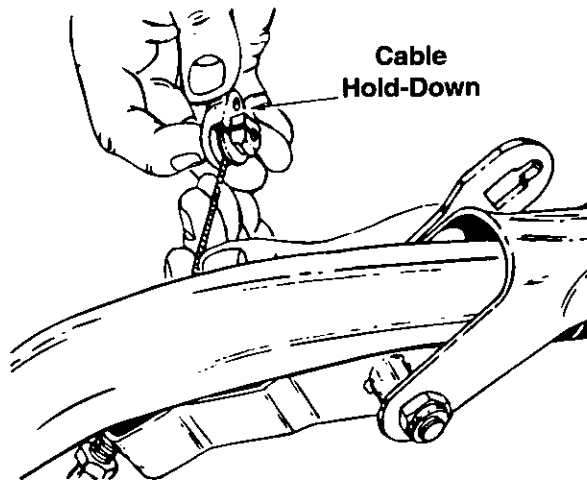

Figure 8
3. Hook the barrel end of the cable into the cable hold-down shipped in the hardware pack. Slide cable around in the slot as shown in Figure 8.